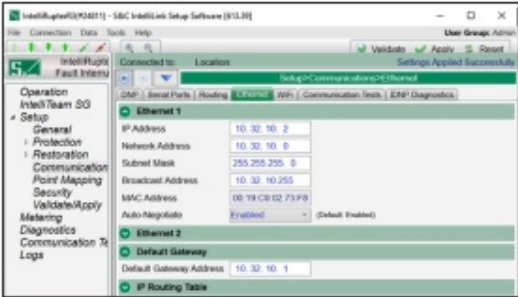

Figure 20. The Setup>Communications>Ethernet screen.
6. STEP 6. Determine what IP address, subnet mask, and default gateway address the IntelliRupter fault interrupter control is using by going to the IntelliLink® Setup Software Setup> Com-mu- nications>Ethernet screen. See Figure 20. Copy this information down because it will be needed to configure the R3 Communication Module’s WAN interface. If there is no Ethernet IP information configured in the IntelliRupter fault interrupter control, then skip to the next step.